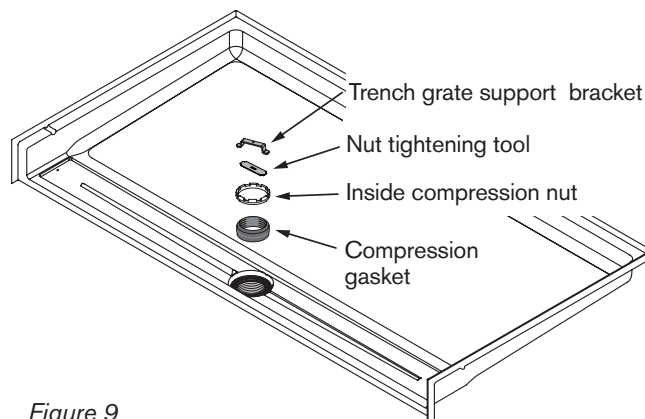

Figure 9
- 16 **FINISH DRAIN INSTALLATION:** Slide inside compression gasket into drain body and slip over pipe. **Make sure beveled end of inside compression gasket is facing up and flush with pipe surface.** (Figure 9)